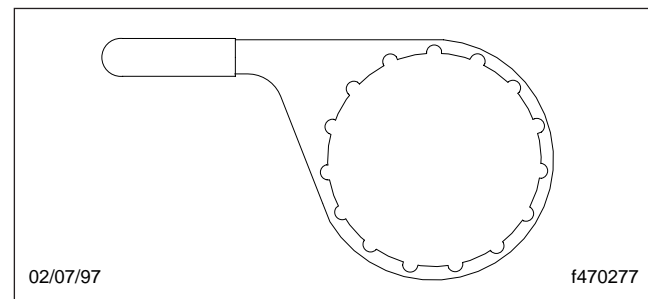

Fig. 10, Davco Filter Collar Wrench (Davco P/N 380134)
2. Remove the filter collar, using the Davco filter collar wrench. See Fig. 10.